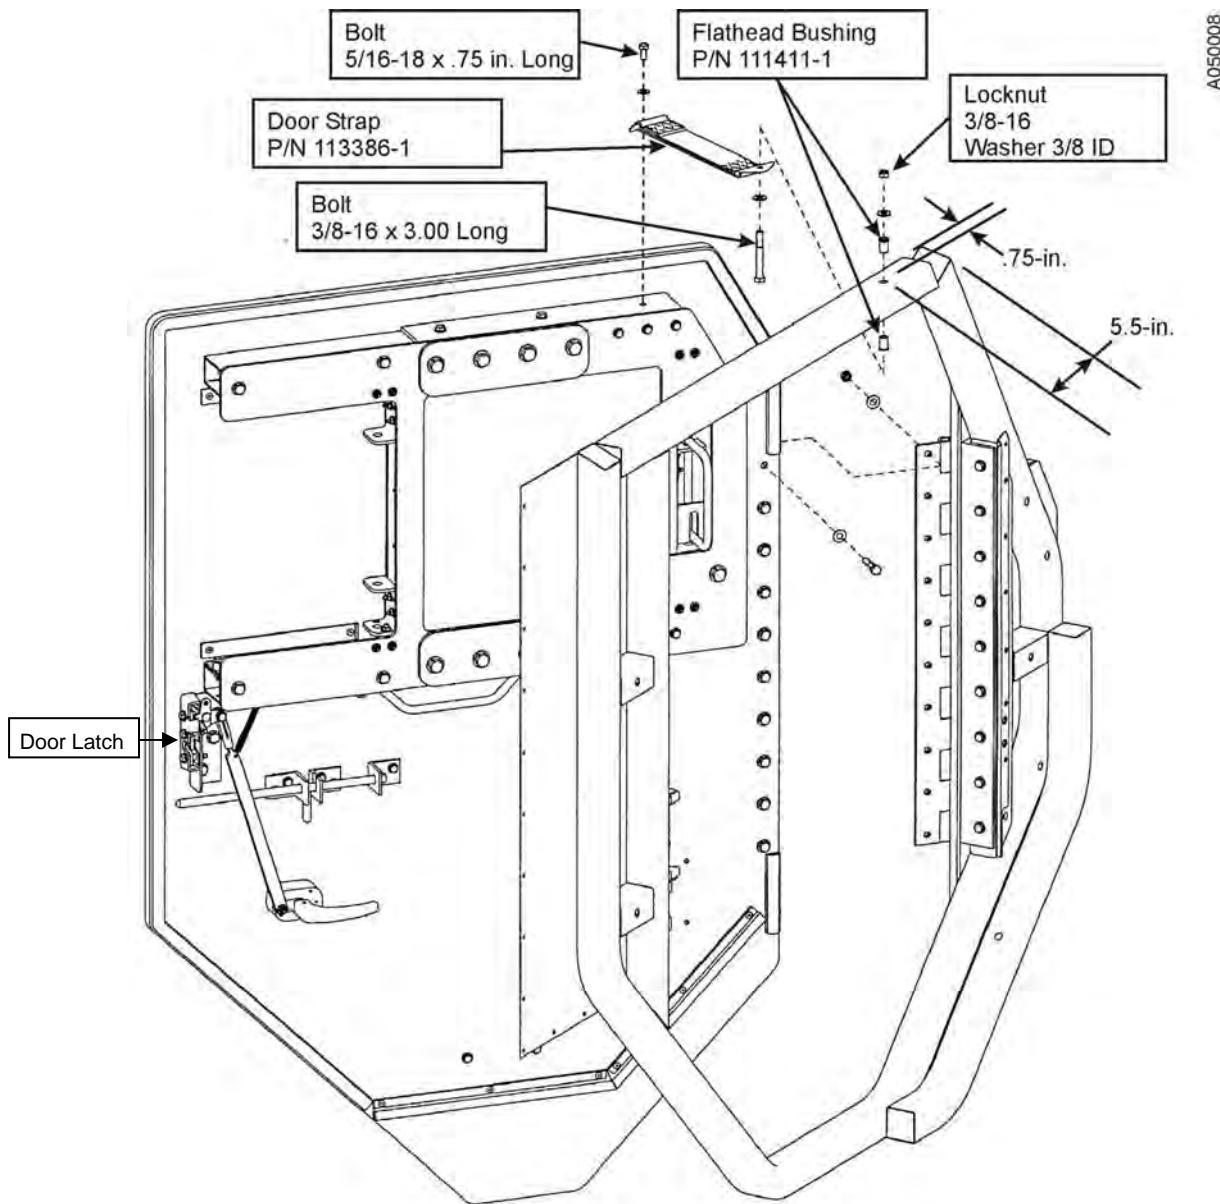

Figure 29. Armored Door and Door Strap.
- I) Locate the Strap Assembly attachment point on the top of the door frame as shown in Figure 29.
- p) Install the Strap Assembly to the door pillar using one bolt (3/8 – 16 x 3.000 LG), two washers (3/8 ID), and two flange bushings (P/N 1114111-1), one on each side of the tube, and one locknut (3/8 – 16) torqued to 10 ft-lb (see Figure 29).
- x) Using the lifting strap and material handling equipment (hoist, forklift, etc.), position the Armored Door Assembly so that the door can be attached to the hinge using ten (10) bolts, as shown in Figure 29.
- z) Install the Door Strap Assembly (P/N 113386-1) using the hardware as shown in Figure 29.
- bb) Re-position the Door Latch Assembly (see Figure 29) if required, by loosening its attachment hardware so that the door smoothly engages the Door Striker Pin and then tighten the attachment hardware.